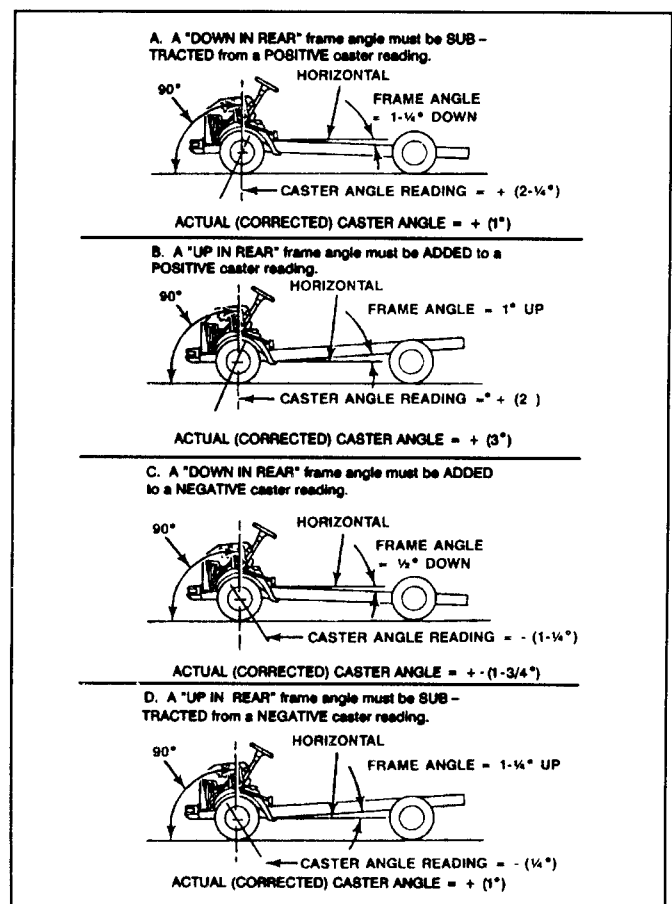

Figure 3—Determining Caster Angle
How to Determine Caster (Figure 3 and 4)
5. Refer to Figure 3. To determine an "actual (corrected) caster reading" with various frame angles and caster readings, one of the following rules apply: